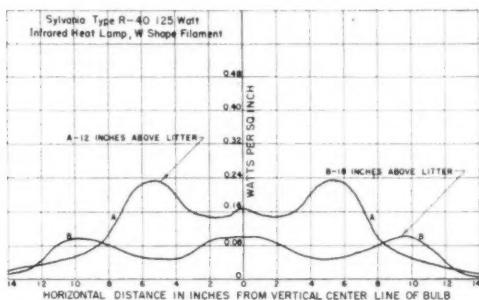

Fig. 2 Radiant-energy distribution pattern for Sylvania Type R-40, 125-w heat lamp. Average of two lamps. Readings taken with type DW-60 radiation meter
Method and Procedure. Laboratory tests consisted of determining energy patterns for the different types of heat lamps which included the type R-10, type G-30, and the ordinary incandescent lamp from each of three major lamp manufacturers. The arrangement and instrumentation for this work is shown in Fig. 1. A General Electric type DW-60 solar radiation meter was used to measure the radiant energy from the different lamps. The patterns for 125, 250, and 375-w type R-40 lamps are shown in Figs. 2, 3, and 4, respectively.
Energy patterns for the 125, 250, and 375-w type R-40 lamps are shown in Figs. 2, 3, and 4. The type R-40 lamp may be obtained with a filament of either the U shape or the W shape. The distribution pattern for the U-shape filament [Fig. 2, Fig. 5 (2)] is such that the chicks under the lamp tend to form a doughnut-shaped ring. The radiation pattern is essentially the same regardless of which type filament is used, but the comfort zone for the two lamps is not the same. Chicks under a lamp with the W-shape filament tend to find a comfort zone more uniformly over the heated area. One line of thought is that for best brooding results, the radiation pattern from the lamp should be umbrella shape, thus allowing more chicks under a given lamp. Another thought is that a lamp with an ice-cream-cone-shape pattern is desirable. This would allow a relatively hot area under the lamp and would give a temperature gradient so that the chick could seek a comfort zone to suit individual needs. With cold-room brooding, the chicks would come from eating and move over under the hot area to get warm, then they would move out from the heated area and seek a comfort zone for resting and sleeping. Up to 75 per cent of the energy from a heat lamp is radiated as radiant energy. The remaining 25 per cent is given off from the lamp and lamp socket as heat being carried by conduction by the air which flows past the lamp. The infrared energy warms the chicks without heating the air through which it passes, also the infrared energy which strikes the litter is changed into sensible heat which helps to keep the chicks comfortable.
No abnormal therapeutic effects of erythema or sunburn, due to infrared rays on the exposed skin of the chicks, have been observed. Infrared radiations may be divided into three bands of three different wave lengths, namely: near infrared, 7,500 to 14,000 Å; middle infrared, 14,000 to 25,000 Å, and far infrared, 25,000 to 50,000 Å (4, 7). One Å (Angstrom unit) equals 1-250,000,000 in. The type DW-60 radiation meter used to obtain the radiation patterns (Fig. 2, 3, 5) was calibrated to indicate radiant energy with a wave length between 0.3 to 3.5 microns or from 2,952 to 34,448 Å. Industrial literature (8) shows that the maximum radiation from an industrial infrared lamp, with a filament temperature of 2,500 K, occurs between a wave length of 7,000 and 20,000 Å.